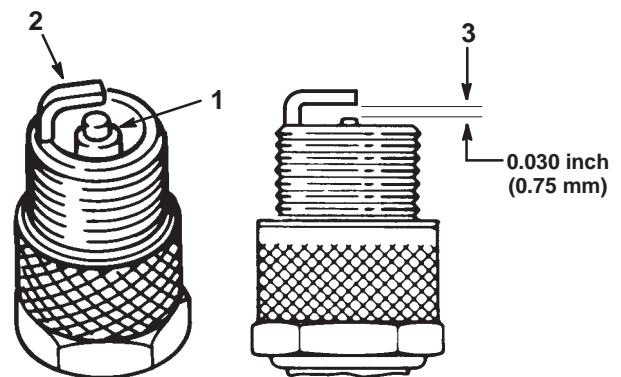

Figure 35
1. Look at the center of the spark plug(s) (Fig. 35). If you see light brown or gray on the insulator, the engine is operating properly. A black coating on the insulator usually means that the air cleaner is dirty.
2. Check the gap between the center and side electrodes (Fig. 35).
Note: Bend the side electrode (Fig. 35) if the gap is not correct.